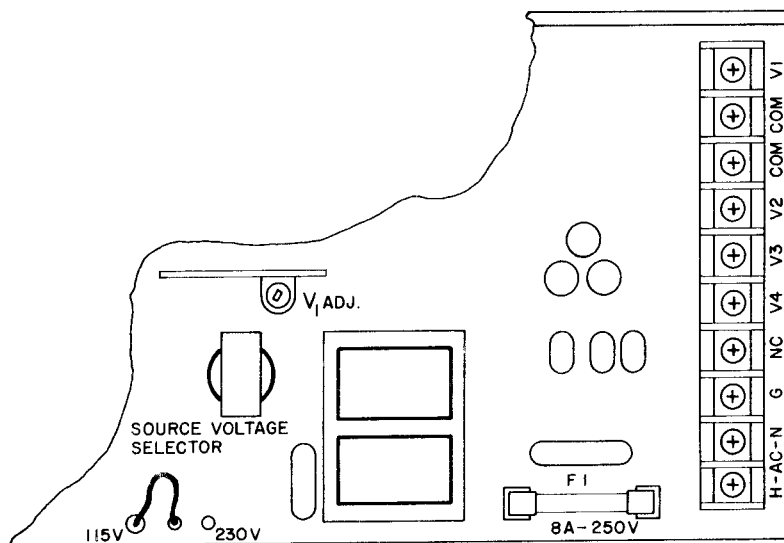

FIG. 2-1 EFX 210T POWER SUPPLY, SIMPLIFIED TOP-VIEW.
- F) OUTPUT ADJUSTMENT RANGE: ± 10%, Principal Output only; Auxiliary Outputs are fixed. The location of the output adjustment rheostat is shown in Section II, FIG. 2-1.
2-7 All EFX power supplies can be operated on a-c, single phase power lines (47 to 440 Hz). The units are normally delivered for operation on a 100 to 130 a-c source. For operation on a 200 to 260V a-c source, remove the wire jumper from the "115" position and reconnect it to the "230" position, see FIG. 2-1.
2-8 FUSE CHANGE (See FIG. 2-1)
2-9 The a-c fuse is located on the printed circuit board and is clearly marked with fuse number and value. See FIG. 2-1.